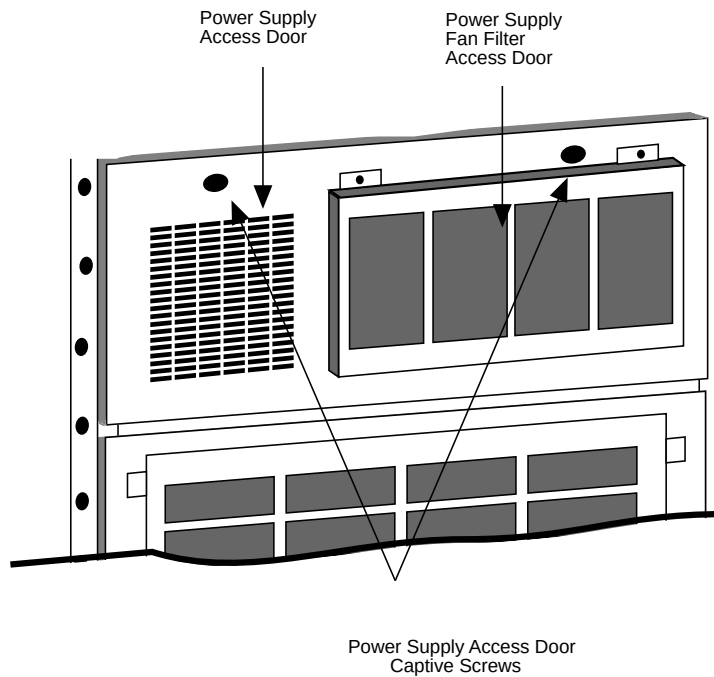

Figure B-1. Power Supply Access Door
2. Loosen the two captive screws on the power supply access panel on the rear of the unit (Figure B-1) and open the door.